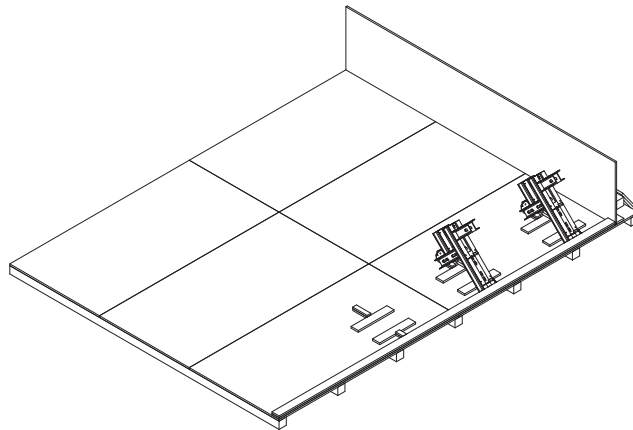

Fig. A3.01
1. Lay Internal Corner Waler IRZ on the assembly area. Make sure it is placed directly against the stopping boards. (Fig. A3.01)